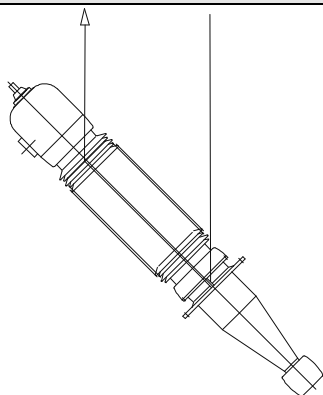
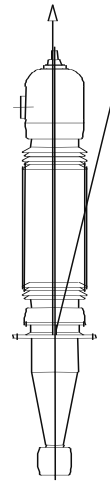

Fig. 7c
Fig. 7d
- Handle with the two tackles to bring the bushing to the vertical position (fig. 7c and 7d).
Lift the bushing (fig. 7d) and operate with the two tackles to give the request inclination (fig. 7c).